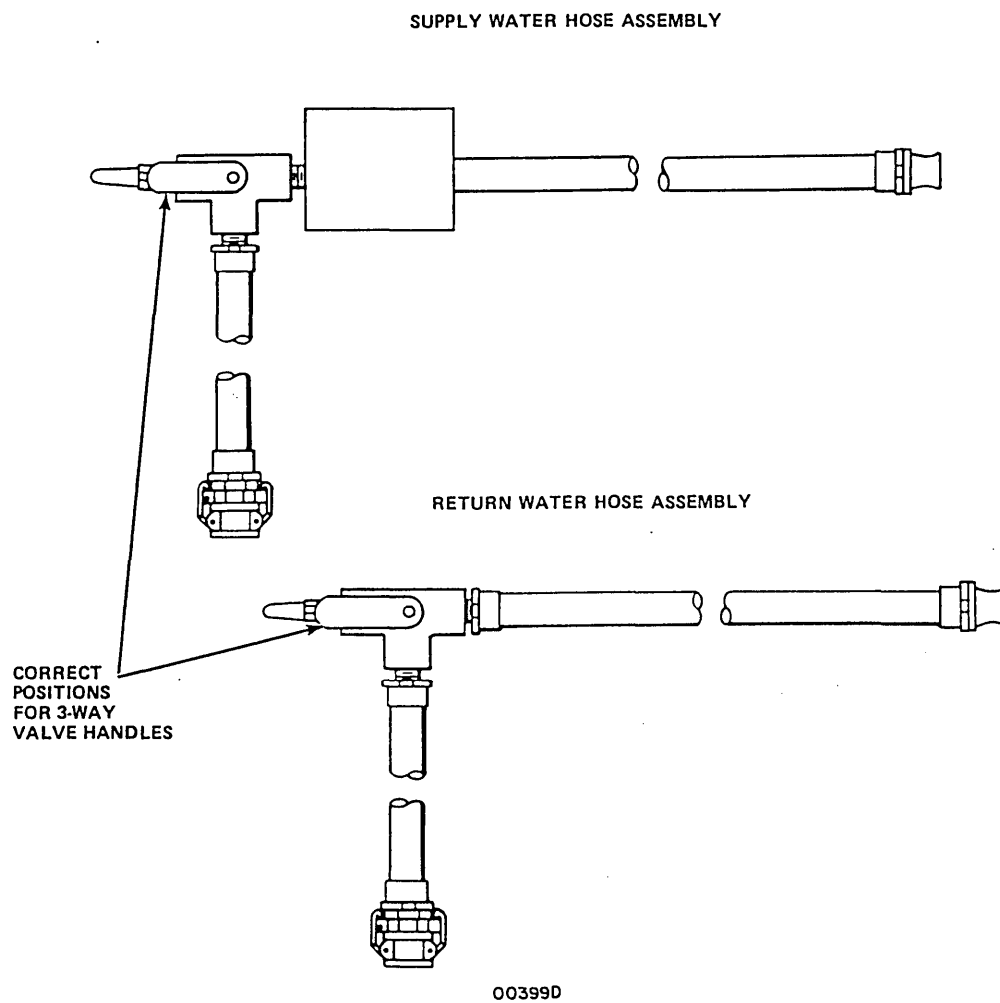

Figure 3-20. Supply and Return Hose Assemblies 3-Way Valves
7. Check that 3-way valve handles on supply and return hose assemblies are set as shown in figure 3-20.